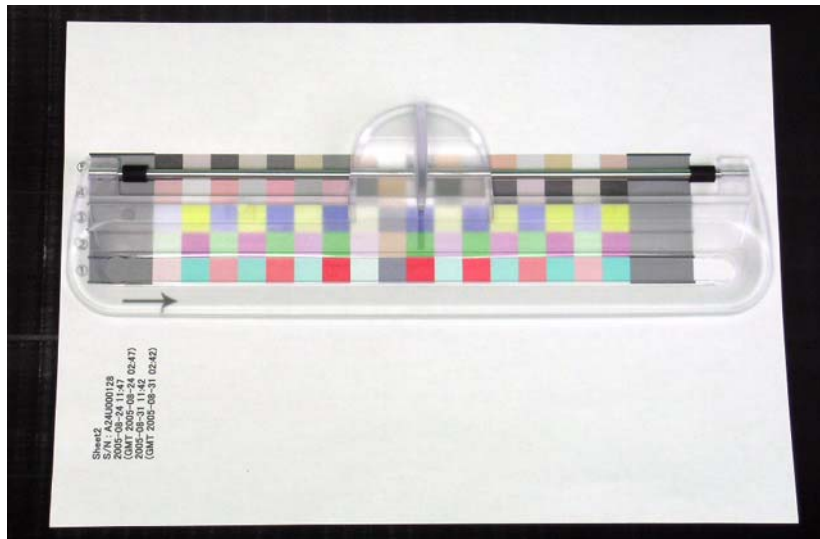

Figure 5-77. Setting the Chart and the Scanning Ruler
32. Refer to Figure 5-77, lay the chart on the black paper (or sheet) with the upper part of the chart facing left side, and set the scanning ruler onto the bottommost patch line.